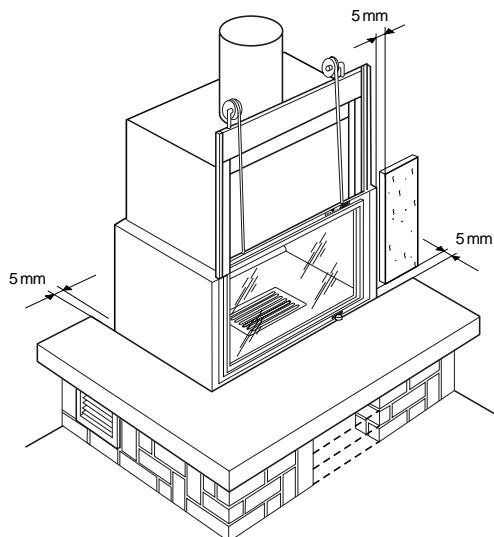

Fig. 5.3
5.3 POSIZIONAMENTO A SECCO (FIG. 5.3)
5.3 TRIAL ASSEMBLY (FIG. 5.3)
5.3 TROCKEN-AUFSTELLUNG (ABB. 5.3)